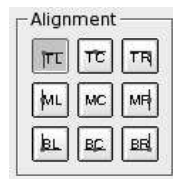

Figure 34: Text alignment.
1. Choose the alignment of the text (Figure 34).